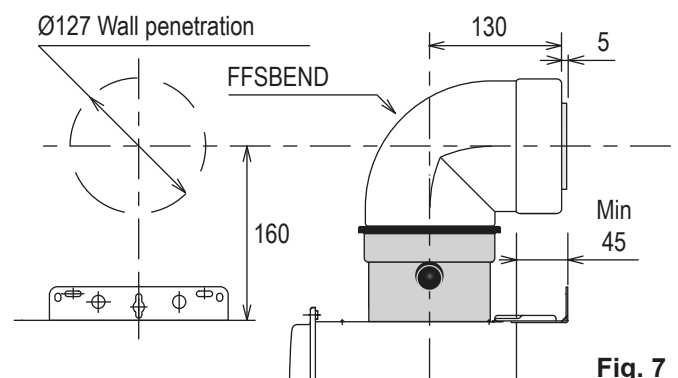

Fig. 7
The Direct Horizontal Flue option (Fig. 7) is used for flueing directly through an external wall and consists of a starter bend (FFSBEND) and a wall terminal (FFWALLTERM).
2. Using the dimensions provided in Fig. 7, mark a point along the appliance centreline 160mm from the top of the water heater. This mark forms the centre for the 127mm diameter wall penetration.